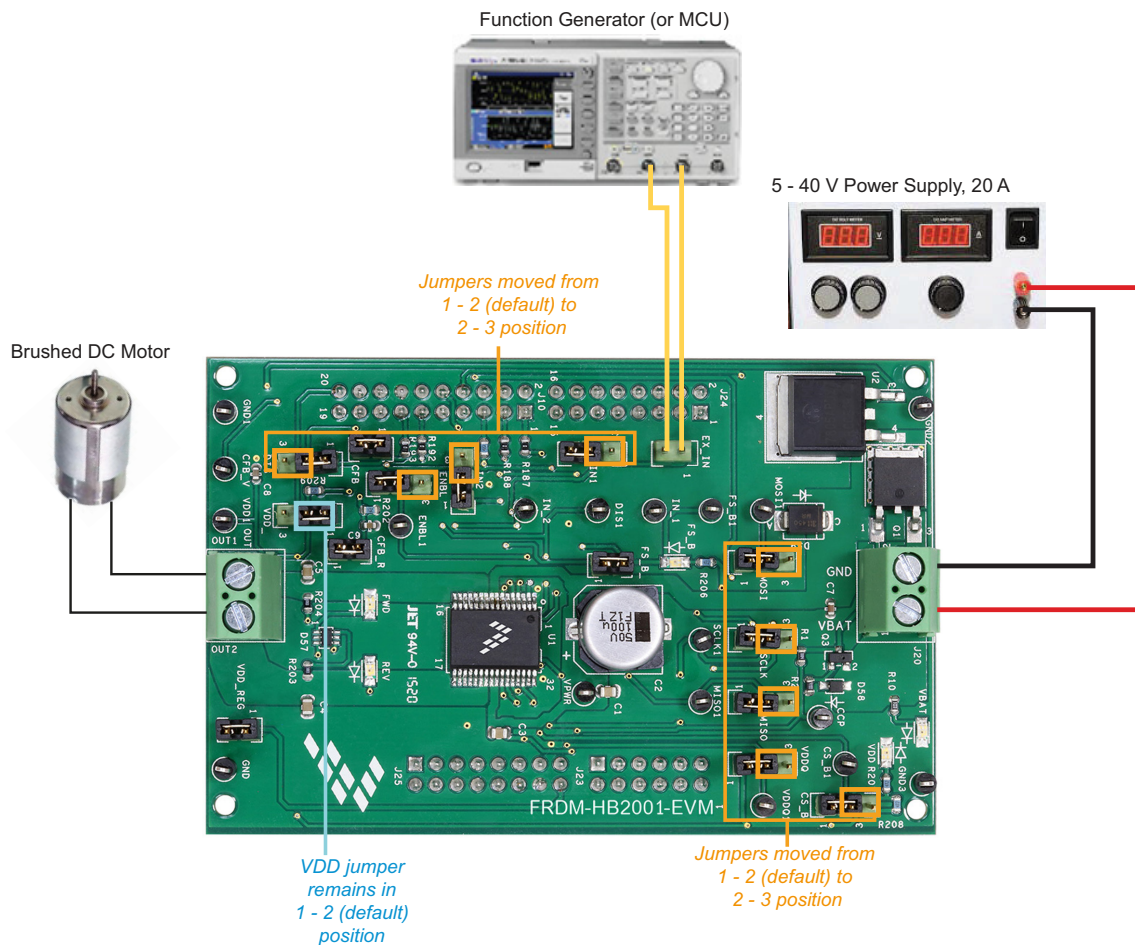

Figure 15. FRDM-HB2001-EVM configured for use with a function generator
2. Change the board jumper connections, as shown in Figure 15.
Figure 15 illustrates the hardware configuration.